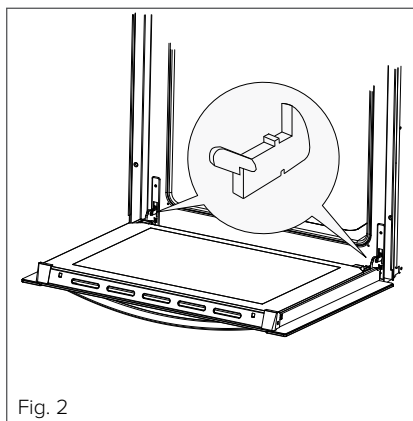

Fig. 2
- Lift and tilt the safety catch part of the hinge (Fig. 2) so that it is fully extended and points towards the door.